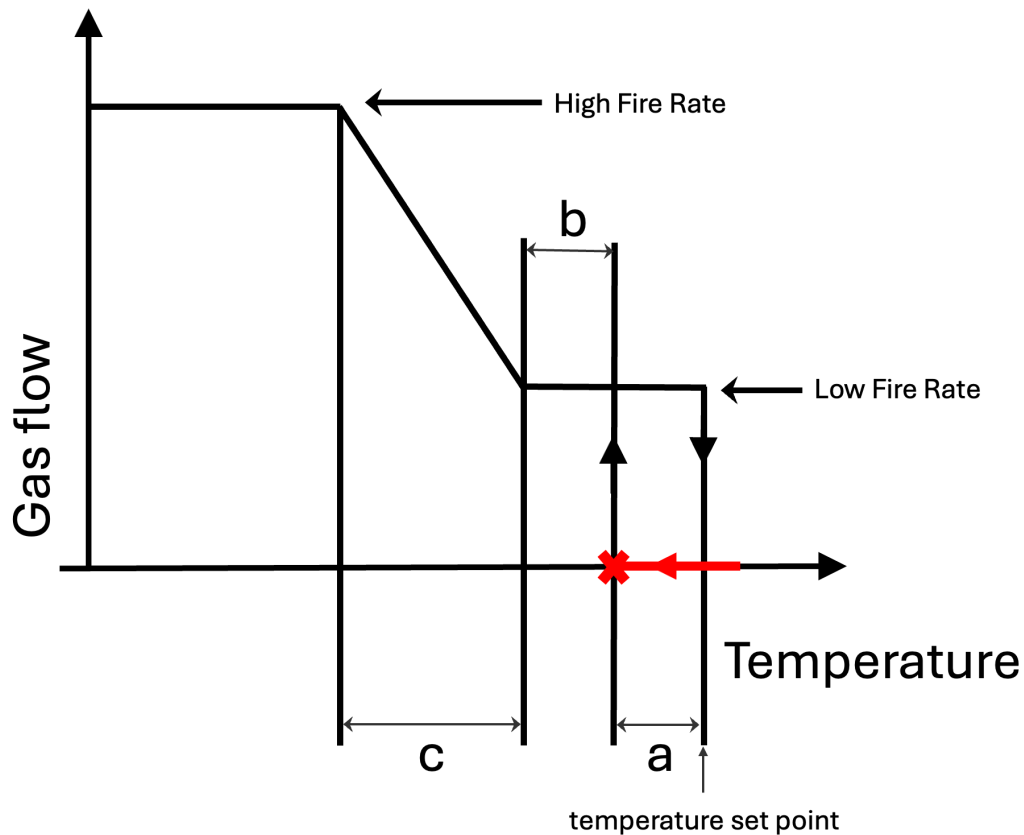

Figure 85. Snap/modulating gas flow
The gas flow and temperature settings have been plotted in Figure 85 to better understand the operating sequence:
- Figure 85. “Snap/modulating gas flow” by BCcampus is licensed under a CC BY-NC-SA licence (<https://creativecommons.org/licenses/by-nc-sa/4.0/deed.en>).